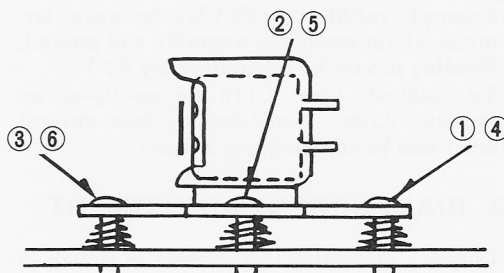

Fig. 20
5. Play the second tape portion (10kHz, -10 dB). Adjust screw 2 in Fig. 20 to obtain maximum meter readings. If the two channels have different maximum points, adjust for average between these.
6. Reverse tape travel direction. Repeat the same adjustment with screw 5 in Fig. 20.